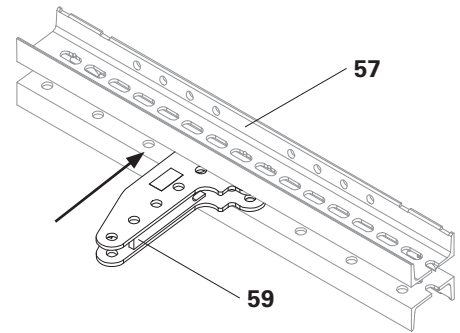

Fig. C2.01c
- Push the Corner Connector SRU VARIOKIT (59) centrally with the short side into the Steel Waler SRU U120 L = 0.97 m (57). (Fig. C2.01c)